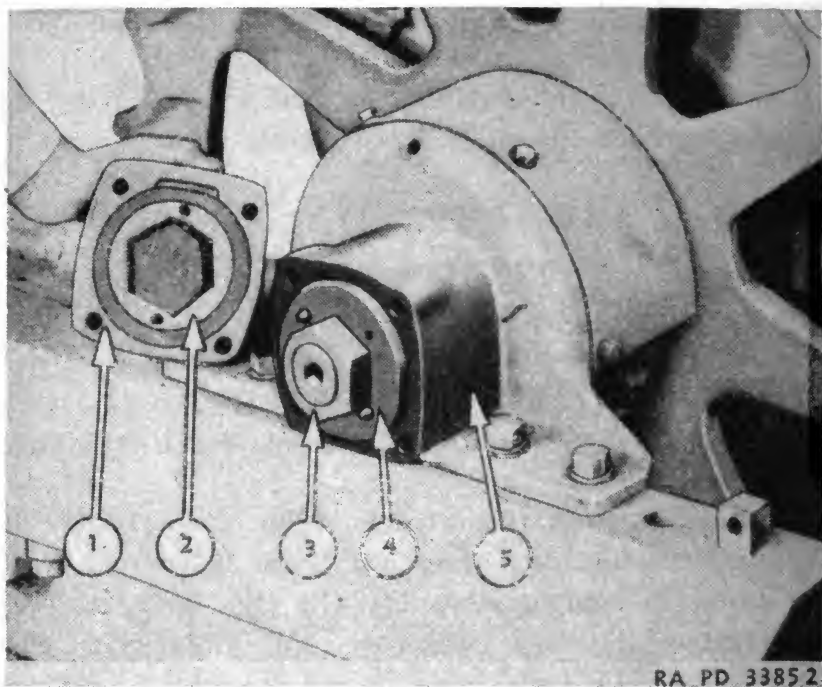
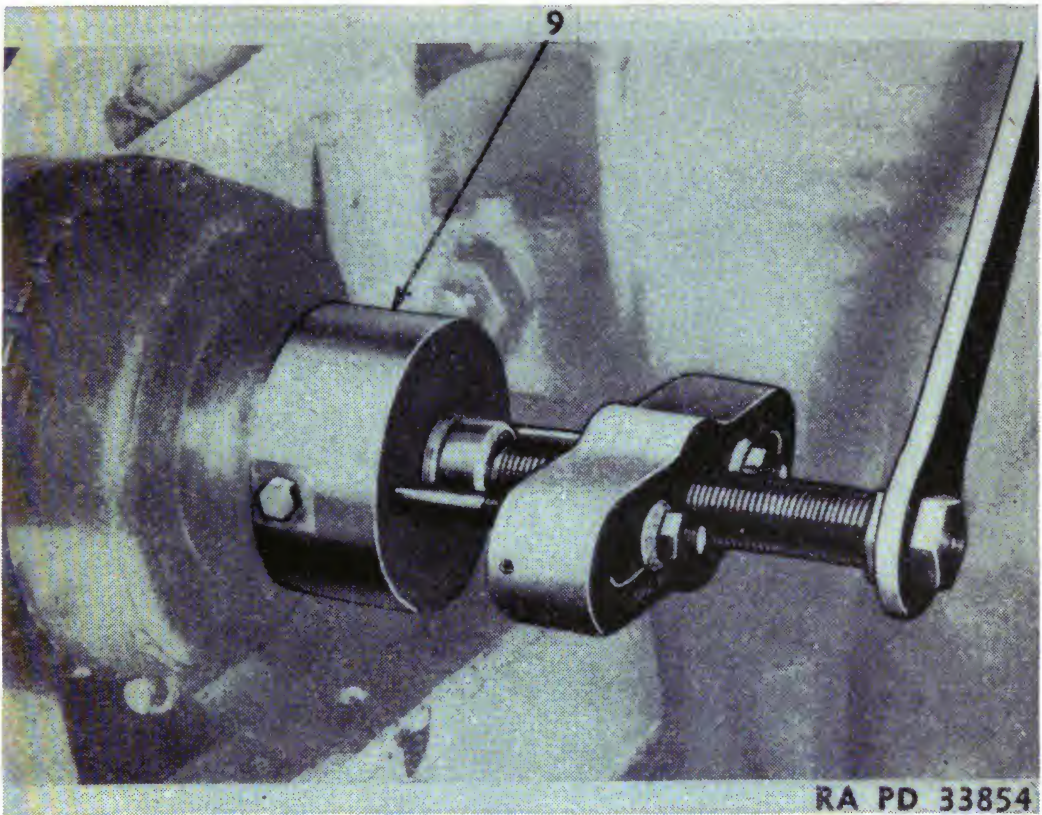
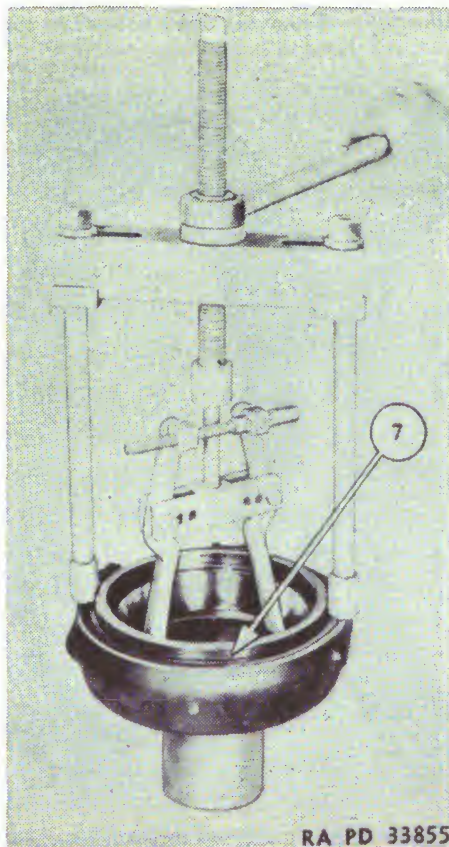
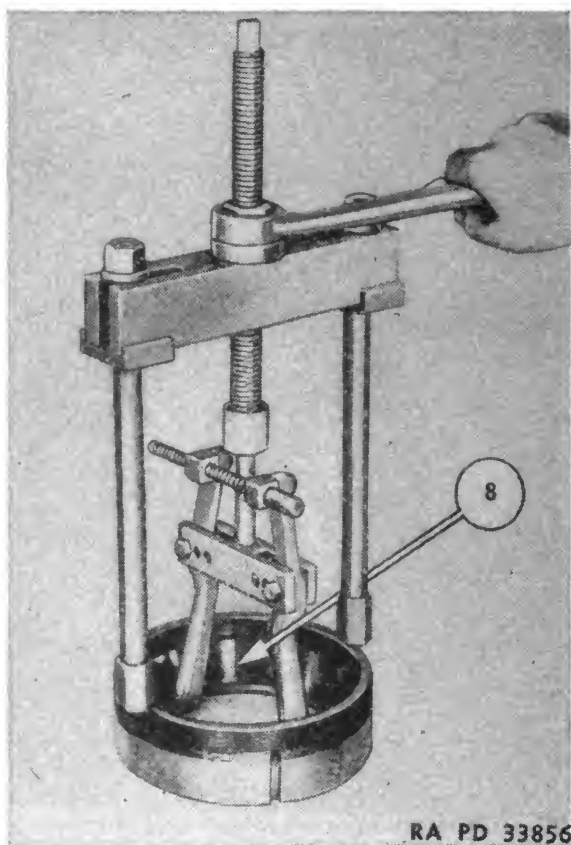

FIGURE 135.—Cap, lock ring, and washer assembly.
FIGURE 137.—Puller arrangement for sprocket hub bearing holder.
FIGURE 138.—Method of cage removal.
FIGURE 139.—Removing outer cone from cage.
(2) Remove capscrews from track roller frame outer bearing.
(3) Jack up tractor until diagonal brace is free of final drive shaft and dowel in bearing assembly (5) (fig. 135), is free of the track roller frame.
(4) Remove cap (1), lock ring (2), nut (3), and washer assembly (4), (fig. 135). Nut (3) is $2\frac{5}{16}$ -inch, for which wrench L2075 is available.
(5) The shims (6) fig. (136), behind washer (4) are for alining the track roller frame centrally with the sprocket.
(6) When properly adjusted, the rear roller in the track roller frame will be centered with relation to the sprocket.
(7) Removing shims will allow the roller frame to move toward the center of the tractor; adding shims will move the roller frame out.
(8) If more than .020 inch in feeler gage thickness can be inserted between the bushing in bearing assembly (5) and the hub of bearing cage holder (9) (fig. 137), a new bushing should be used.
b. Bearing cage holder assembly.—Use the puller arrangement for sprocket hub bearing holder (9).
c. Bearing cage.—(1) Unscrew final drive adjusting nut from cage holder. Pull cage (7) (fig. 138) from the holder using the CAT8B7548 and CAT8B7554 pullers as shown. The same combination will pull outer cone (8) (fig. 139) from the cage.